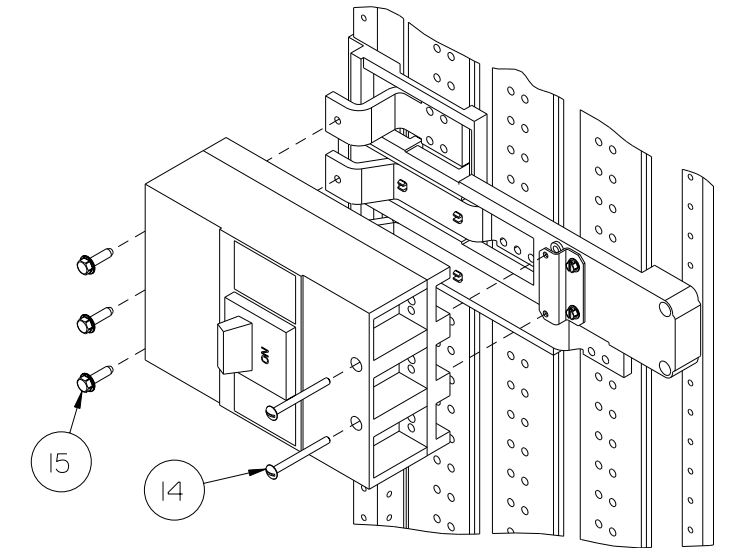

Figure 7
8. Reference fig. 7 - Install the circuit breaker. Insert one 5/16-18 x 1-1/8" machine screw (item 15) through each of the three contacts on the line side of the breaker and into the 0.228" diameter holes at the end of the three Phase Connectors. Insert two 1/4-20 X 2-3/4" thread forming screws (item 14) into the two mounting holes at the load side of the breaker and into the two 0.228" diameter holes in the breaker mounting bracket and tighten. Torque all connections to the values specified on the rear of the dead front.